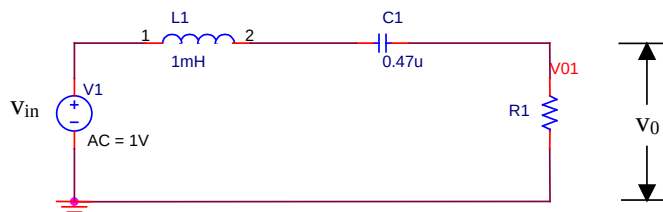

Figure 2 RLC Series Circuit.
- Consider the circuit of Figure 2. Let the circuit be excited by a sinusoidal source whose frequency can be varied from 100 Hz to 100 KHz. Use PSpice to obtain a plot of $|v_o/v_{in}|$ versus frequency for two different values of $R1$ (47Ω and 220Ω). Obtain the two required plots on the same graph (by creating two circuits in the same Schematics file). **In Probe, set the x axis setting of the plot to log scale.**
- 2.1 Experimentally determine $|v_0/v_{in}|$ as a function of frequency for the circuit of Figure 2 for values of R_1 equal to 47Ω . Take more readings near the frequency of interest. Use the DMM.